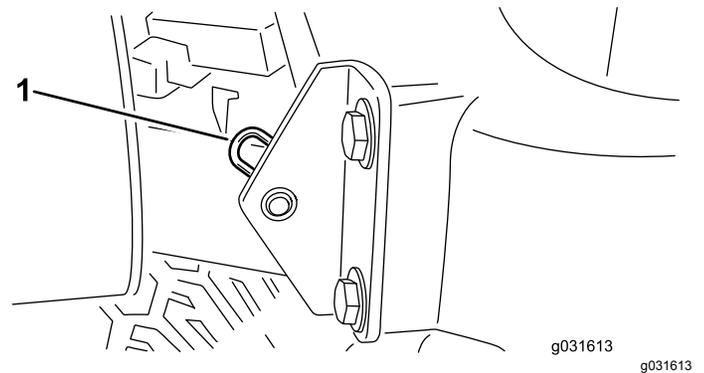

Figure 64
2. Remove the hairpin cotter securing the hood pivot to the mounting brackets (Figure 64).